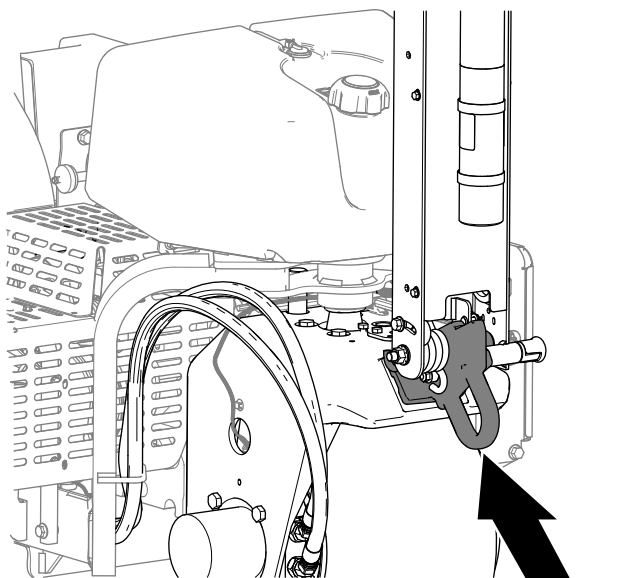

Figure 128
6. If you tow the machine, pull it using the front tie-down hoop (Figure 128).